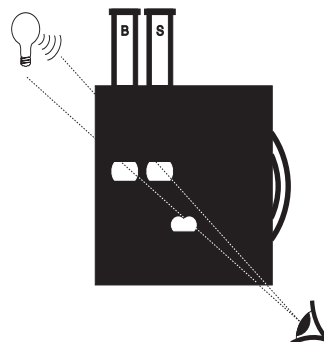

Figure 3. Comparing the Blank and the Sample
**8.1.** Insert tube of treated water sample in the right top opening of the comparator; give it a few seconds for the chemical to react. (See Figure 3.)
**9.1.** Elevate the color comparator to eye level up to a light such as the sky, window, or lamp, rotating disk until the closest match is achieved. (See Figure 3.)